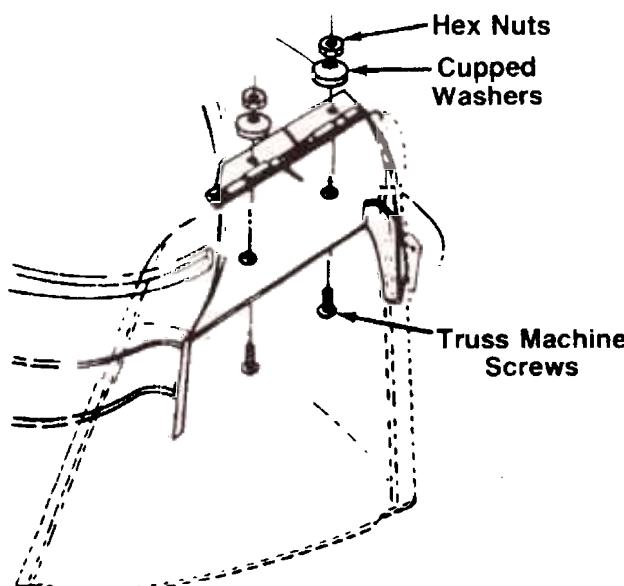

FIGURE 8.
2. Place the chute deflector in position as shown in figure 8. Secure with hardware just removed.